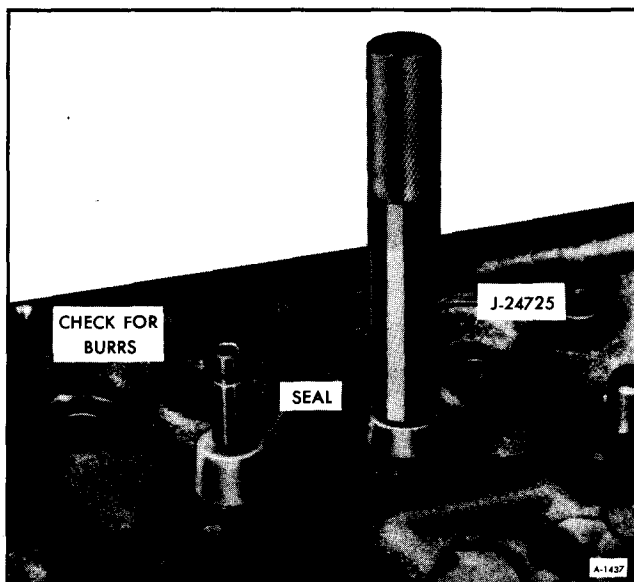

Figure 30—Valve Seal Installation
2. Install new oil seals over valve stem, using Tool J-24725. See Figure 30.